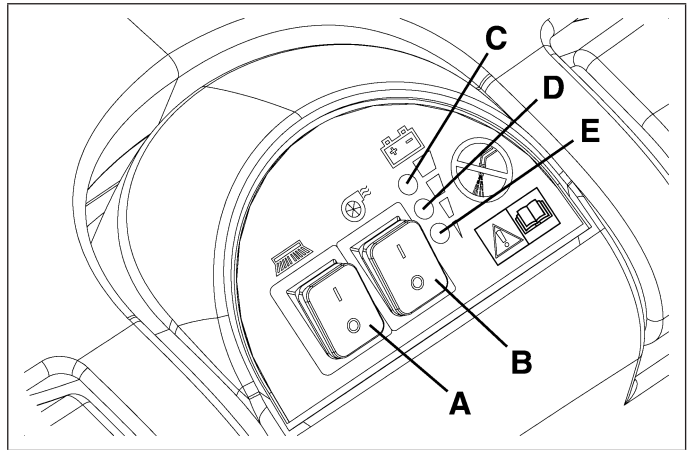

Figure 14
4. Turn the switches (A and B, Fig. 14) to the “I” position.
*If the green indicator light (C, Fig. 14) turns on, the machine is ready to be used.
7. Turn the switches (A and B, Fig. 14) to the “0” position.